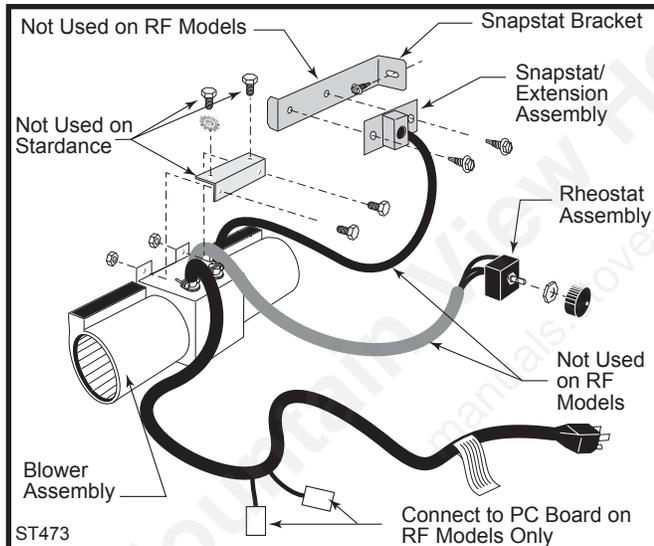

Fig. 12 Fan kit components.
- The fan kit includes a Blower Assembly and a Rheostat Assembly, connected by a cable. (Fig. 12) The Blower Assembly mounts to the bottom rear of the stove, and the Rheostat mounts to the valve bracket to the left of the valve. The assembly includes a 'snapstat' which automatically turns the fan On (or Off) above (or below) approximately 109°. The Rheostat also provides a range of fan speed settings from Off (which overrides the snapstat function) to High. Unpack and inspect the Blower assembly. Confirm the fan spins freely.